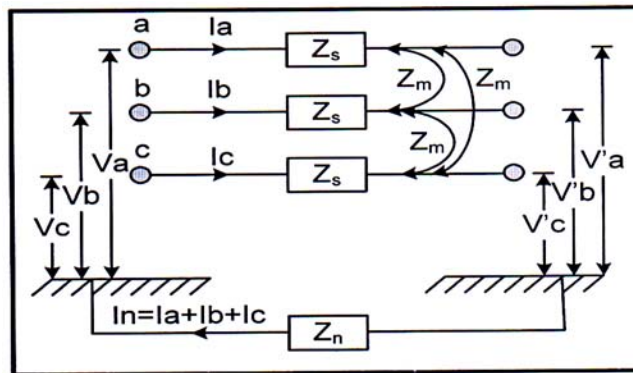

Figure 2
- Q6)** a) An unsmmetrical loaded transmission line is given in following figure 2. Show that $Z_0 = Z_s + 2Z_m + 3Z_n$ and $Z_1 = Z_2 = Z_s - Z_m$ [9]